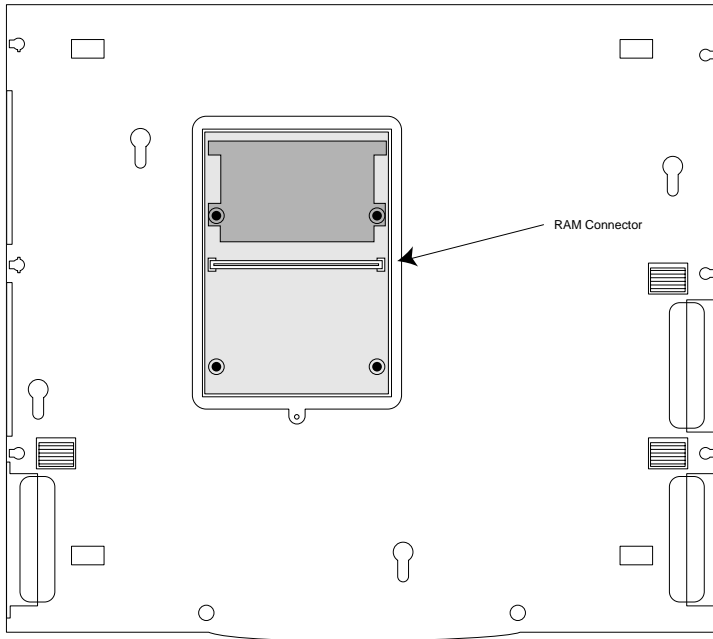

Figure 3-12 Installing the Memory Module
5. *If you are adding memory modules*, insert the modules into the RAM connector slots (see Figure 3-12), pressing gently but firmly until the modules are fully seated.